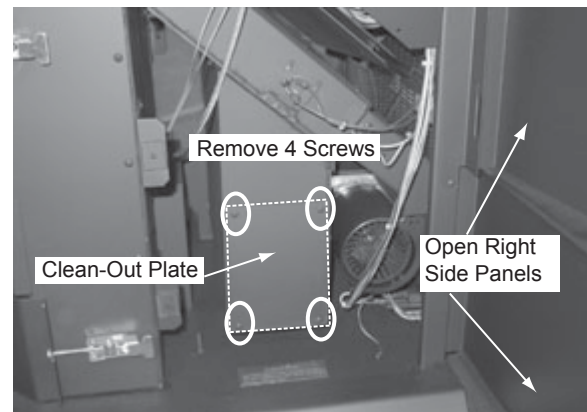

Figure 34.3
1. Open both the upper and lower right side panels. **Figure 34.3.**
2. Using a Phillips head screwdriver remove the 4 screws from the clean-out plate and set aside. **Figure 34.3.**